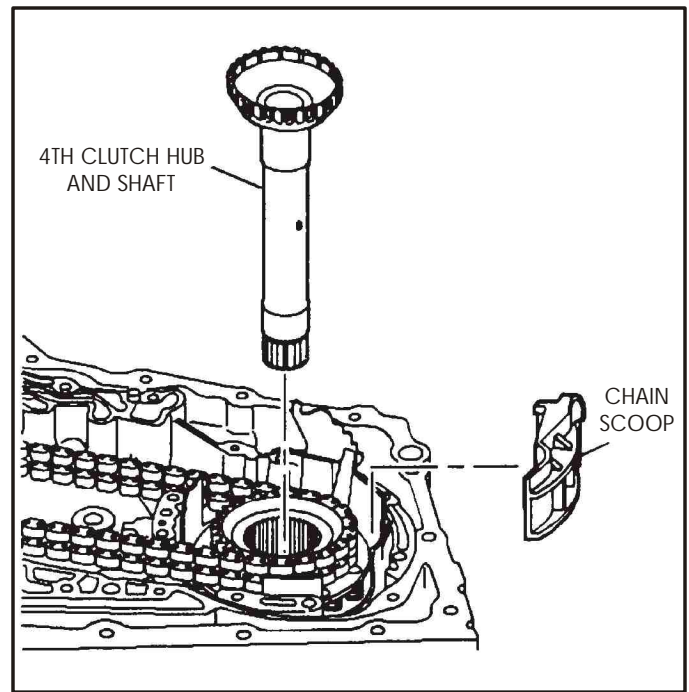

Figure 173
74. Install the 4th clutch hub and shaft assembly into transaxle, as shown in Figure 173.
75. Install the chain scoop between the case and driven sprocket support (See Figure 173).